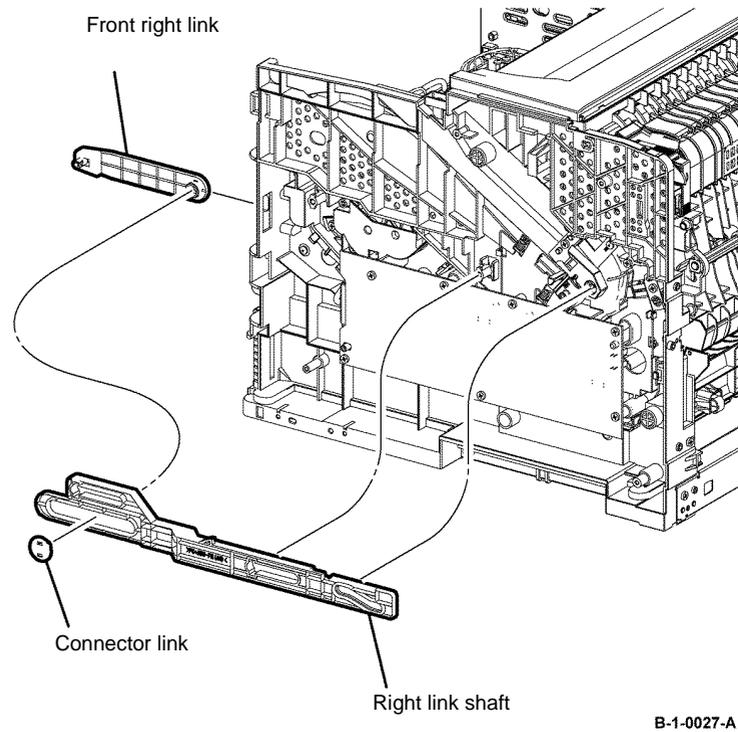

Figure 2 Right link shaft removal
9. Remove the right link shaft by bending it outside from inside the printer, Figure 2.